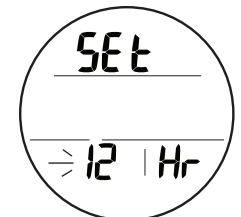

Fig. 25 - SET HOUR FORMAT
**Set Hour Format**, information includes (Fig. 25):